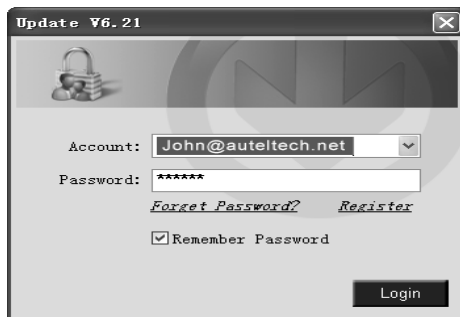

Figure 7.2
- 1) Run **Autel Update** in the **PC Suite** program. Wait for the Log In window to pop up (Figure 7.2).